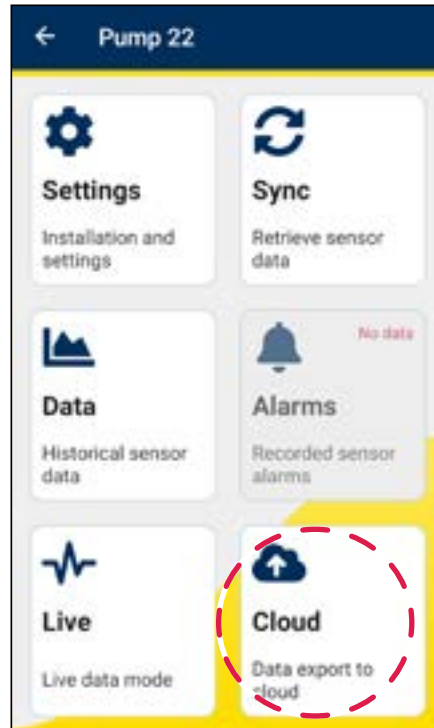

Figure 39
4. Select sensor **Data Export to Cloud** (see figure 39).